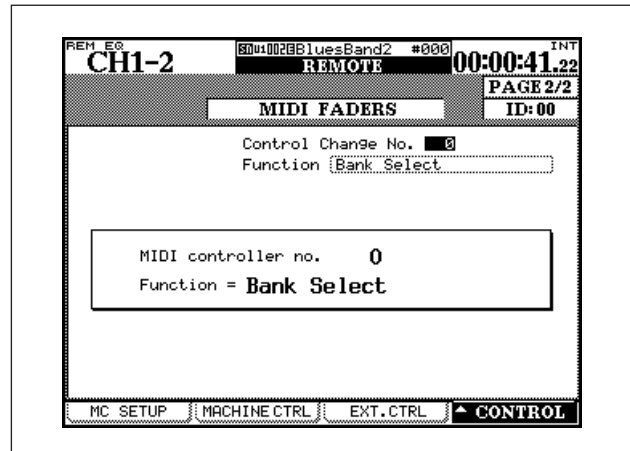

Figure 8.5: MIDI Faders setup screen
- 2 Set the Control Change message using the CONTROL setup screen (below at Figure 8.5,